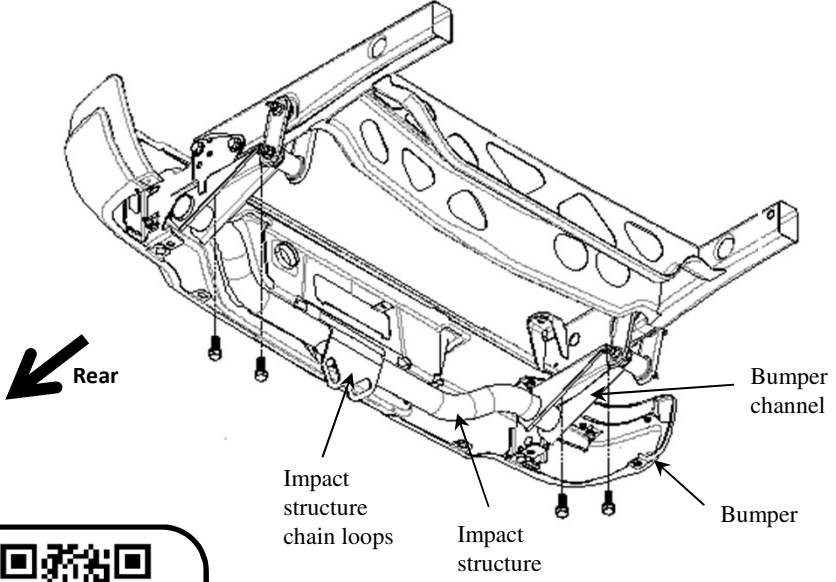

Figure 1
1. Remove (4) bolts from the bottom of the impact structure. See Figure 1. Return bolts to owner.